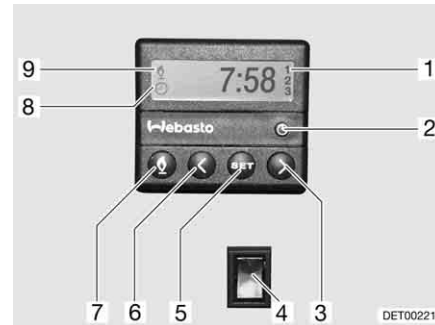

Fig. 175 Operating unit for independent vehicle heater
Switching on manually: ■ Press the button (Fig. 175,7). The heating mode is displayed by the symbol (Fig. 175,9). The fan will only be switched on when there is a coolant temperature of 30 °C.
Switching off manually: ■ Press the button (Fig. 175,7). The symbol (Fig. 175,9) goes off.
Switching on the engine heating: ■ Press the lower part of the switch (Fig. 175,4). Engine is preheated. The fan is switched on immediately.
Switching off the engine heating: ■ Press the upper part of the switch (Fig. 175,4). Engine stays cold.
Setting the time: ■ Press the button (Fig. 175,2). The time setting is displayed by the symbol (Fig. 175,8).
■ Set the time with the buttons (Fig. 175,3 and 6).
Programming heating start: ■ Press the button (Fig. 175,5).
■ Set the switching on time within ten seconds, with the buttons (Fig. 175,3 and 6).
Selecting programmed switching on time: ■ Keep pressing button (Fig. 175,5) until the selected programme number (Fig. 175,1) appears in the display.